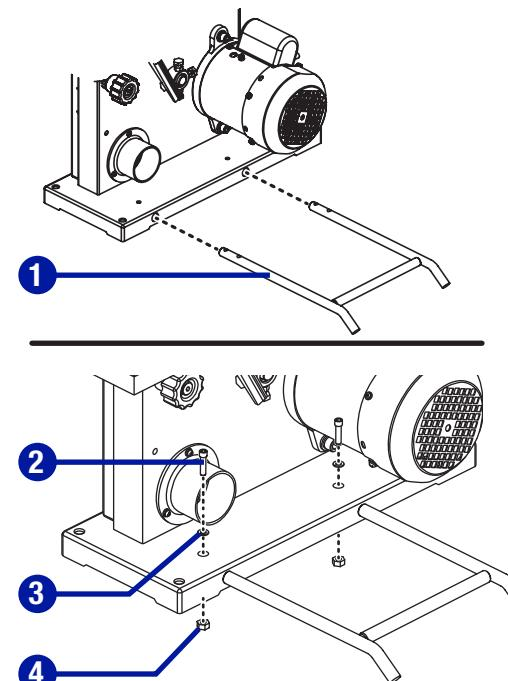

Fig. 4
#### MOUNTING ADDITIONAL SUPPORT ON THE BASE (Fig. 4)
- Remove the D-nut (1), flat washer (2) and wing screw (3) from the hole located in the front edge of the work table (4). (Fig. 4)
- Standing at the front of the band saw, slide the work table (4) past the blade (5) and through the slot moving from the right side of the work table to the left.
- Holding the work table with your left hand while pulling the table tilt adjustment knob (6) away from the saw frame, align the teeth on the table support assembly (7) with the teeth on the table tilt adjustment knob (6). Release the knob.
- Fit the pins on the frame into the slots of the table support assembly (7)
- Insert the washer (8) on the threaded end of the table tilt locking lever (9). Tighten the work table to the saw frame by turning the table tilt locking lever (9) clockwise.